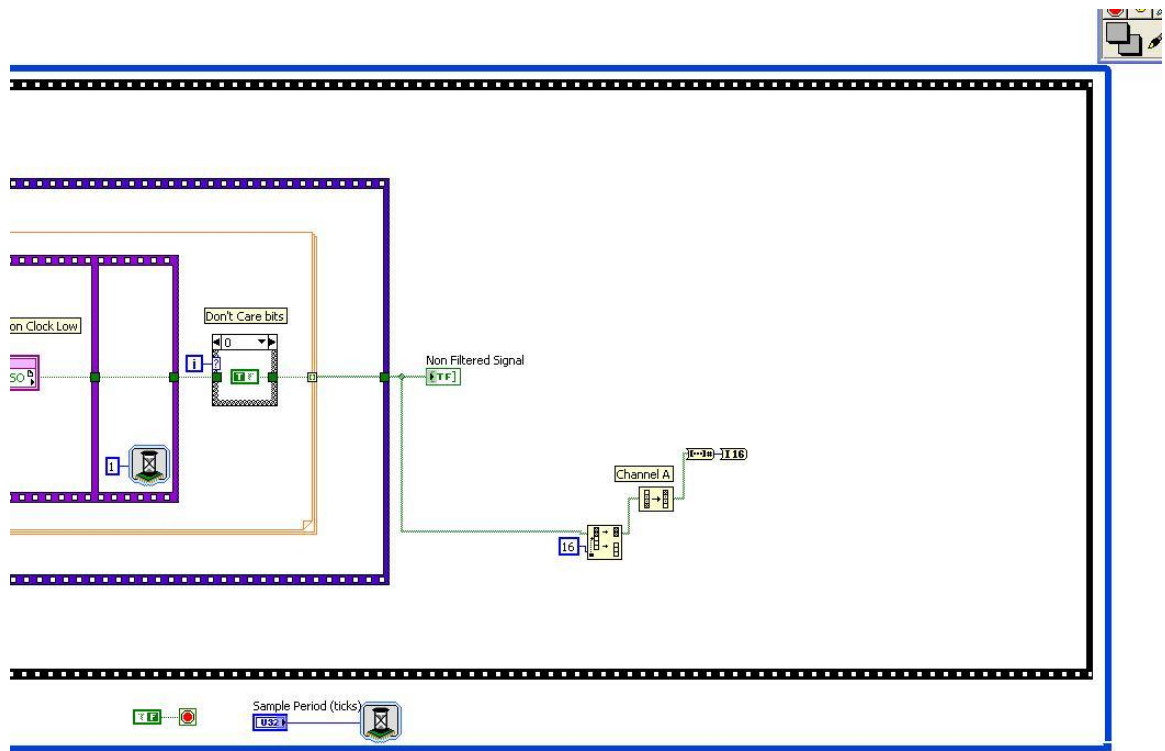

Figure 27: Show Connector ADC
11. Your block diagram should look similar to Figure 27. We are now going to integrate the IP Core into your block diagram.